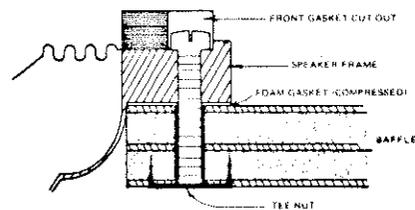

FIGURE 9
**IMPORTANT! When front mounting, the screw head must fit down into the front gasket cutout. See Figure 9.**